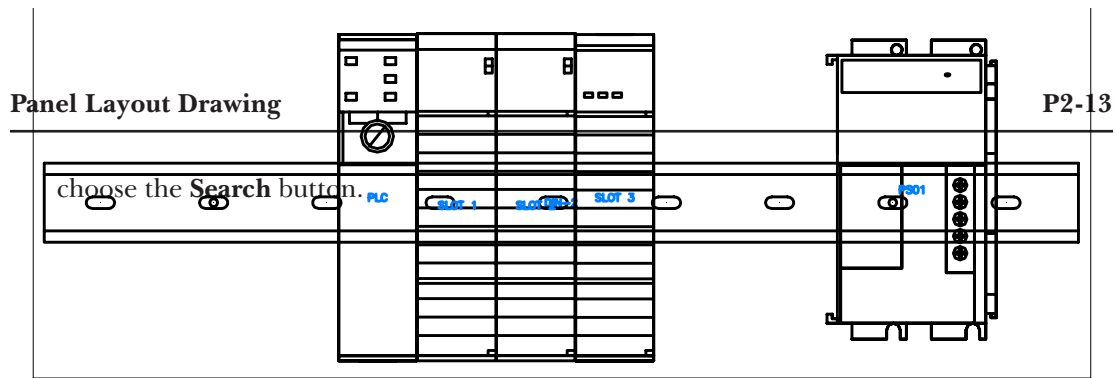

Figure P2-12 The PS01 power supply inserted in the drawing
46. Choose the **OK** button; the PS01 power supply is inserted in the drawing, as shown in Figure P2-12.